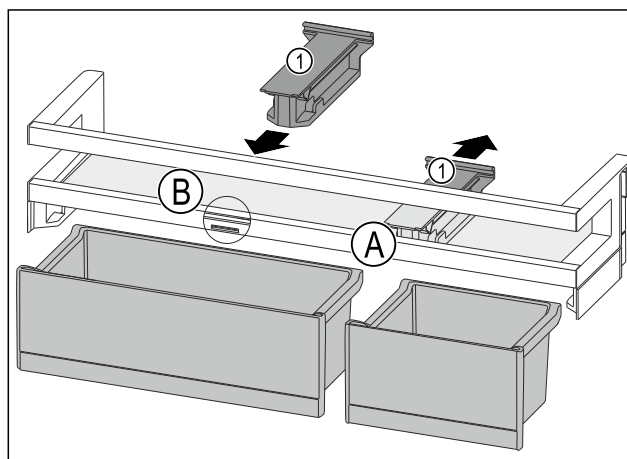

Fig. 94
- ▶ Take off the holding part Fig. 94 (1) in position Fig. 94 (A) backwards.
- ▶ Insert the holding part Fig. 94 (1) in position Fig. 94 (B).